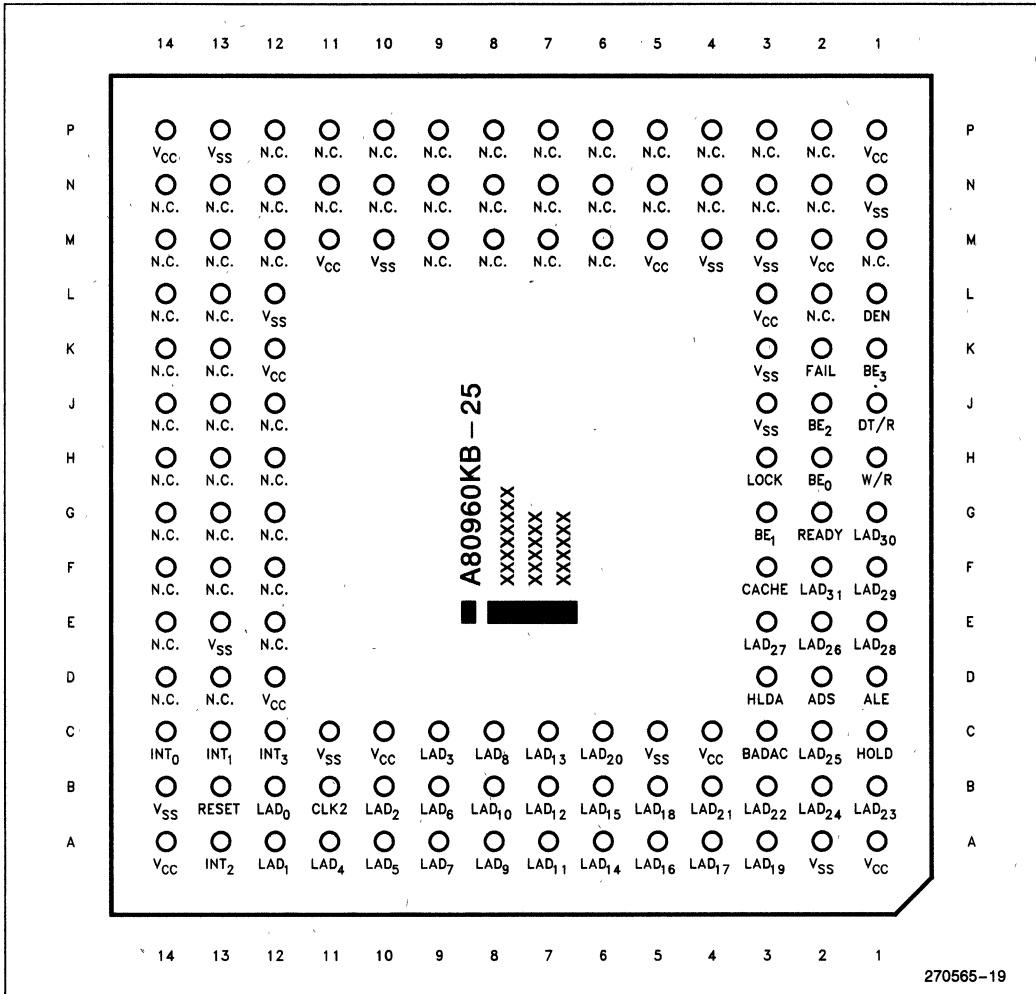
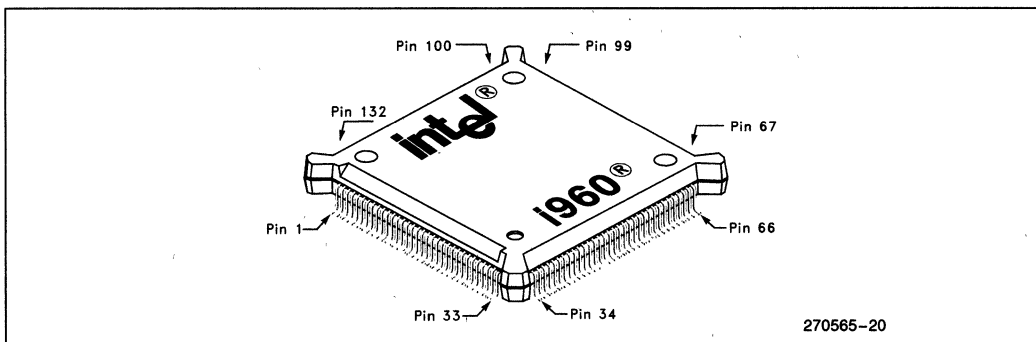
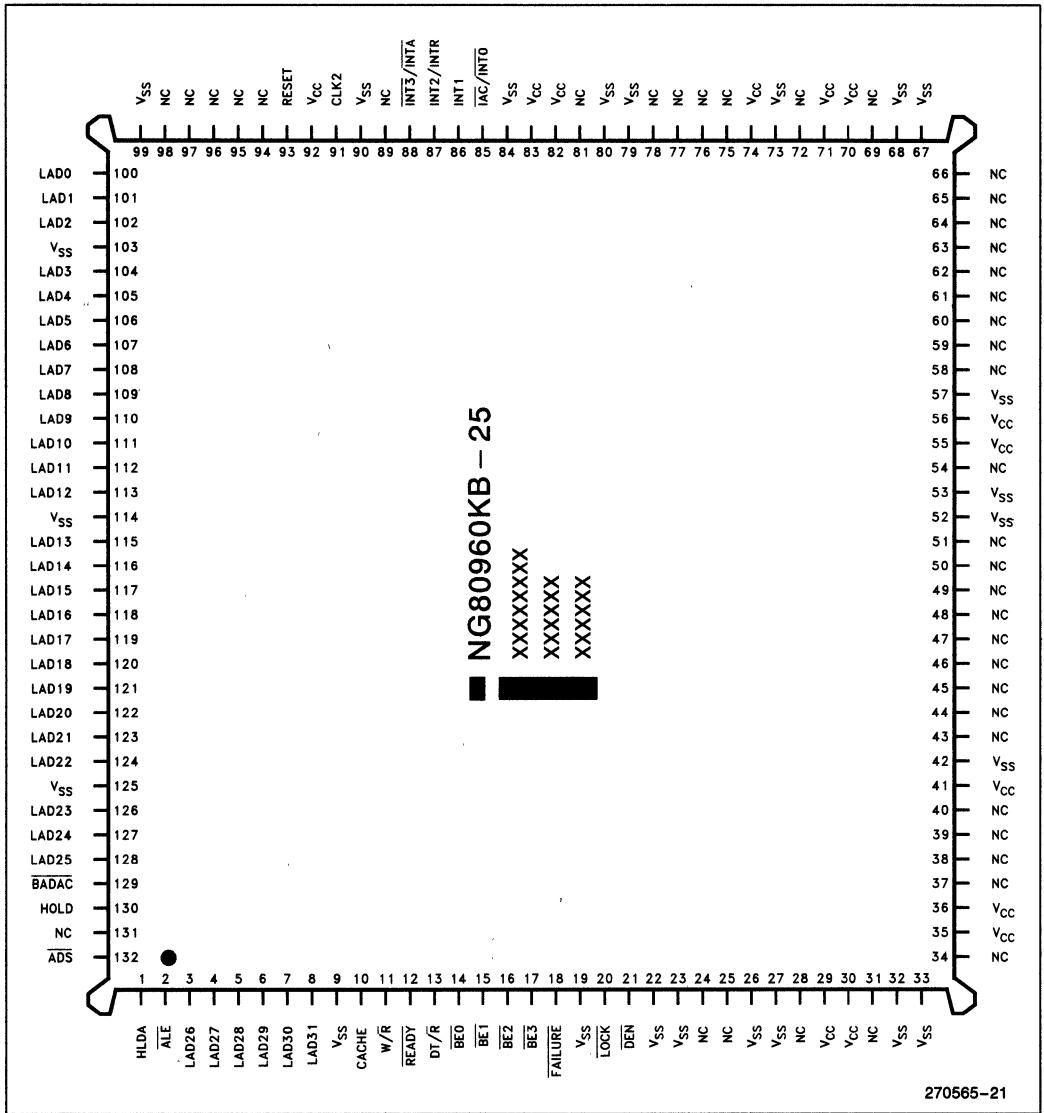

Figure 19. 80960KB PGA Pinout—View from Top (Pins Facing Down)
Figure 20. 80960KB 132-Lead Plastic Quad Flat-Pack (PQFP) Package
Figure 21. PQFP Pinout—View from Top
- 132-lead plastic quad flat pack (PQFP). This package uses fine-pitch gull wing leads arranged in a single row along the package perimeter with 0.025 inch (0.64 mm) spacing (see Figure 20).
The PGA and PQFP have different pin assignments. Figure 18 shows the view from the PGA bottom (pins facing up) and Figure 19 shows a view from the PGA top (pins facing down). Figure 20 shows the PQFP package; Figure 21 shows the PQFP pinout with signal names. Notice that the pins are numbered in order from 1 to 132 around the package perimeter. Table 10 and Table 11 list the function of each PGA pin; Table 12 and Table 13 list the function of each PQFP pin.